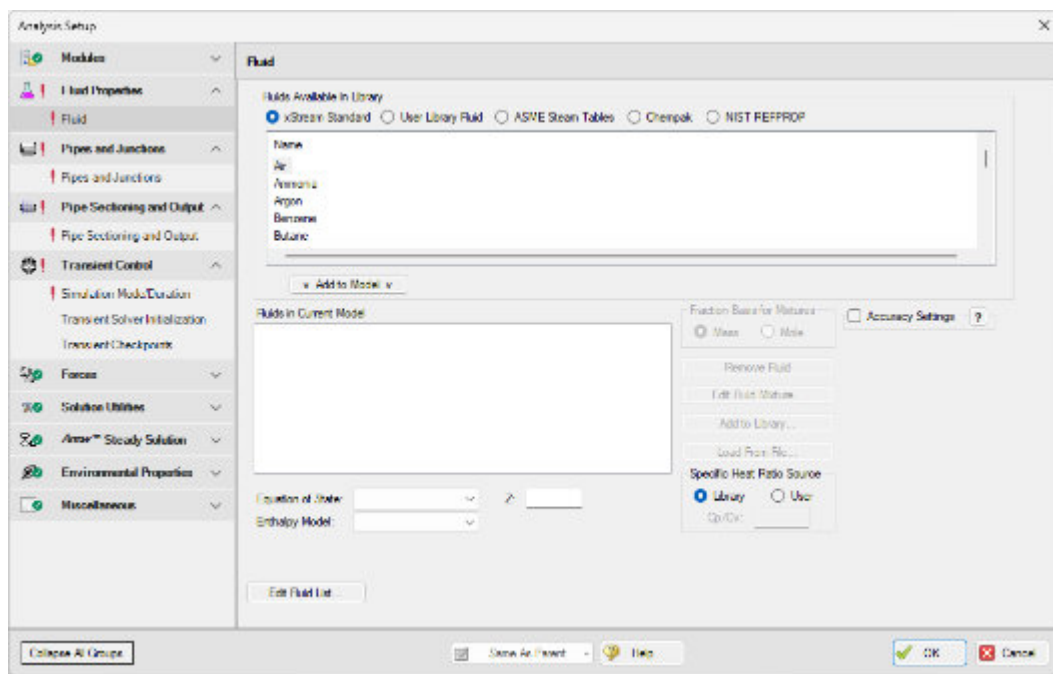

Figure 2.14 The Analysis Setup window tracks the defined and undefined model inputs
- **Click Analysis Setup on the Main Toolbar** to open the Analysis Setup window (see Figure 2.14). The Analysis Setup window contains various *groups* depending on which modules you may be using. Each group has one or more *items*. A fully defined group has every item within it defined with all required inputs. Complete every group to run the Solver. A group or item that needs more information will have a red exclamation mark to the left of the group or item name. After completing a group, the group icon shows a green circle with a checkmark. After defining all groups, thus completing the Analysis Setup, the Model Status light in the lower-right corner of the Workspace turns from red to green.
Under the Modules group, click on the Modules item to open the Modules panel, shown in Figure 2.14. Here you can enable and disable the Pulsation Frequency Analysis (PFA) Add-on Module if it is available on the license. By default, the model will have all modules disabled. Make no changes to this panel for this example.